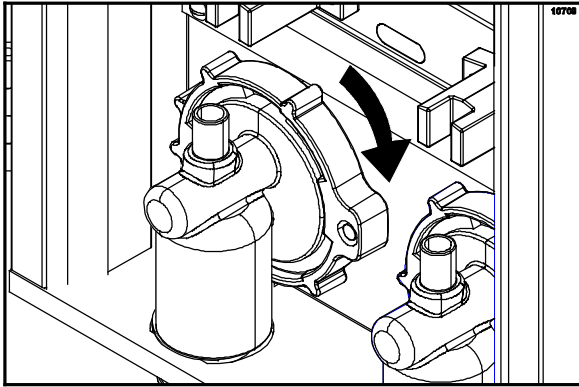

Figure 12
10. Turn the locking ring clockwise until the magnet is in the 3 o'clock position. (See Figure 12.)